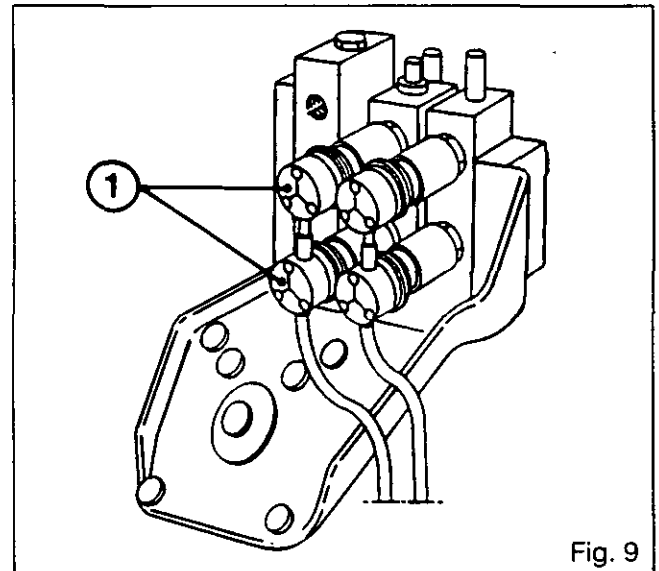

Fig. 9
*Note: To prevent oil flowing on to the rear of the tractor, oil catchers (1) with pipes have been fitted on to the quick couplers (Fig. 9). Introduced from serial number R178047.*